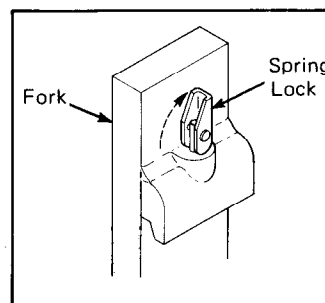

Figure 20. Release the Spring Lock
1. Release the spring lock on the top of each fork by lifting the lever on the backside of the fork as shown in Figure 20.